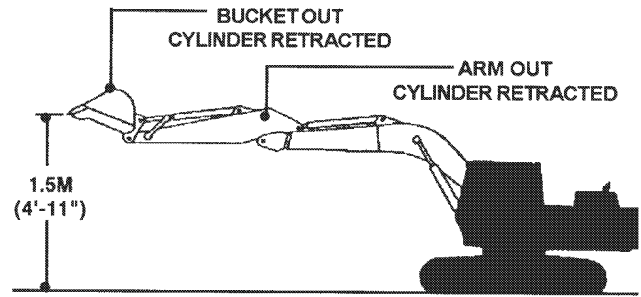

FIGURE 4.2
3. Operate the Arm Out Control until arm is completely out (retracting cylinder). See Figure 4.2.
5. Adjust boom up or down until bucket teeth are 1.5m (4'-11") from ground level. See Figure 4.2.